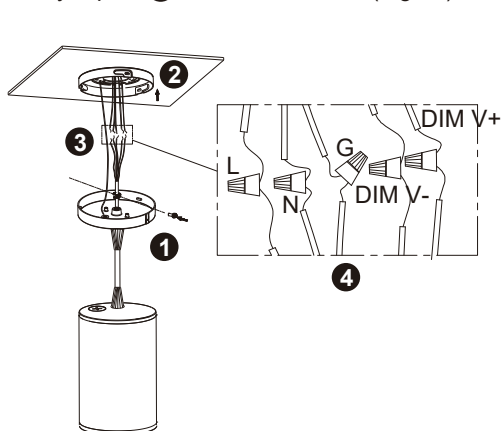

Fig 15
4. ① Slip on the line buckle and adjust the length of the lanyard. ② Fixed ceiling tray on the ceiling. ③ Put on the safety rope. ④ Connect the wire. (Fig 15)